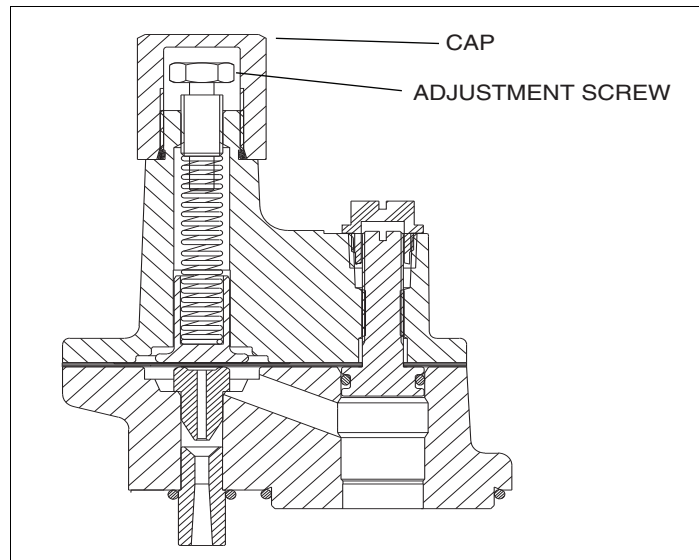

Figure 24. Functional Element Cap And Adjustment Screw
1. Remove the cap (see Figure 24).
2. Turn down the adjustment screw (see Figure 24). Tightening the screw clockwise will increase the pressure. When the adjusting screw is fully down, the relief pressure is approximately 30 psi (207 kPa). Fully up will result in relief pressures between 0 - 3 psi (0 - 20 kPa).
6. Remove the two lock-down bolts. To relieve pressure, rock the pump to allow excess pressure to flow into the tank or back out pressure adjustment screw (see Figure 24 on page 27).